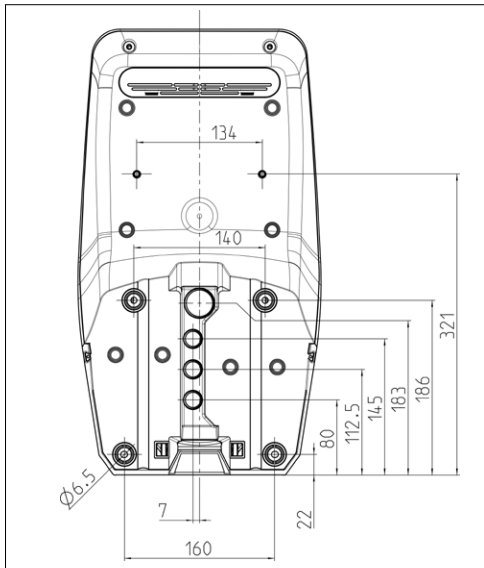

Fig. 10: Drilling dimensions [mm]
For concealed installation the position of the supply line must be arranged using the provided drilling template or Fig. "Fig. 10: Drilling dimensions [mm]".
- ▶ Mark the mounting bores using the supplied drilling template or Fig. "Fig. 10: Drilling dimensions [mm]".